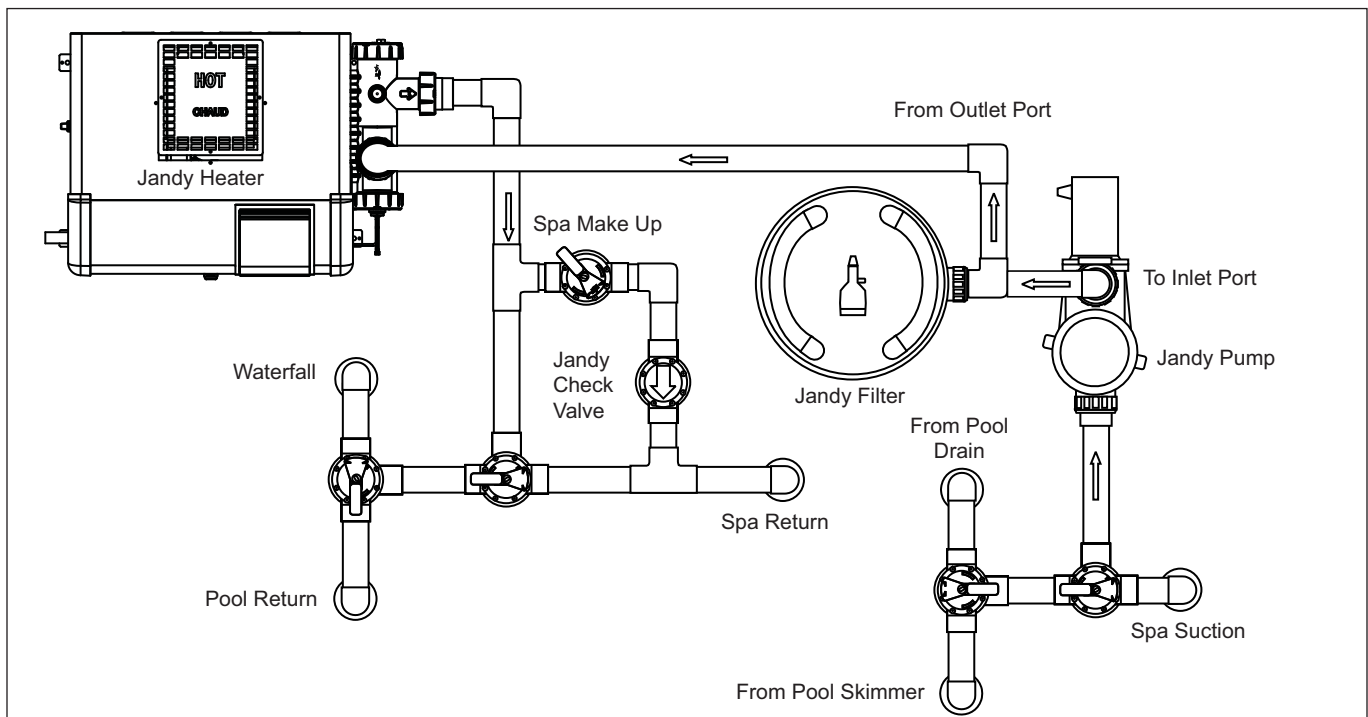

Figure 4. Basic Pool/Spa Combination Plumbing
3. Place the filter on the concrete pad, lined up with the inlet/outlet pipes (see Figure 4). **Remove the shipping screw.**